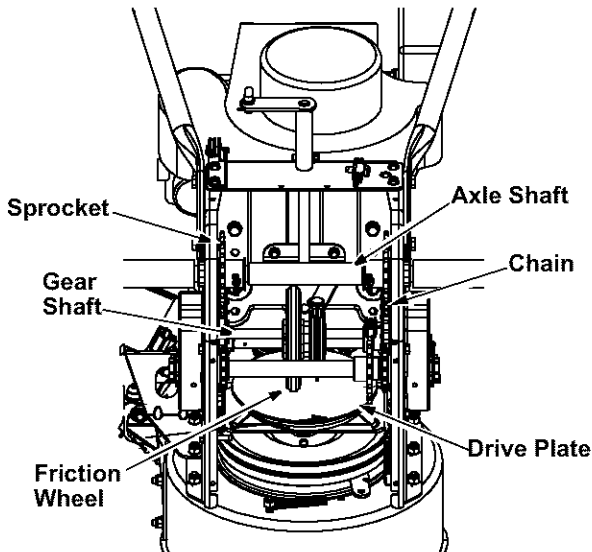

Figure 10
- With the traction control released, check if there is clearance between friction wheel and drive plate in all positions of the shift lever. See Figure 10.
- With the traction control lever engaged, check if the friction wheel fully contacts the drive plate. See Figure 10. If not, adjust as follows.
- At least once a season or after every 25 hours of operation, remove rear cover. Lubricate any chains, sprockets, gears, bearings, shafts, and the shifting mechanism at least once a season. Use engine oil or a spray lubricant. Refer to Figure 10.
- Lubricate the gear shaft with 6-in-1 grease (part number 737-0170) at least once a season, or after every 25 hours of operation. Refer to Figure 10.
- Also engage the traction control and check if the friction wheel is making contact with friction plate. Refer to Figure 10. If it does not make contact, adjust the traction drive cable and recheck the friction wheel.